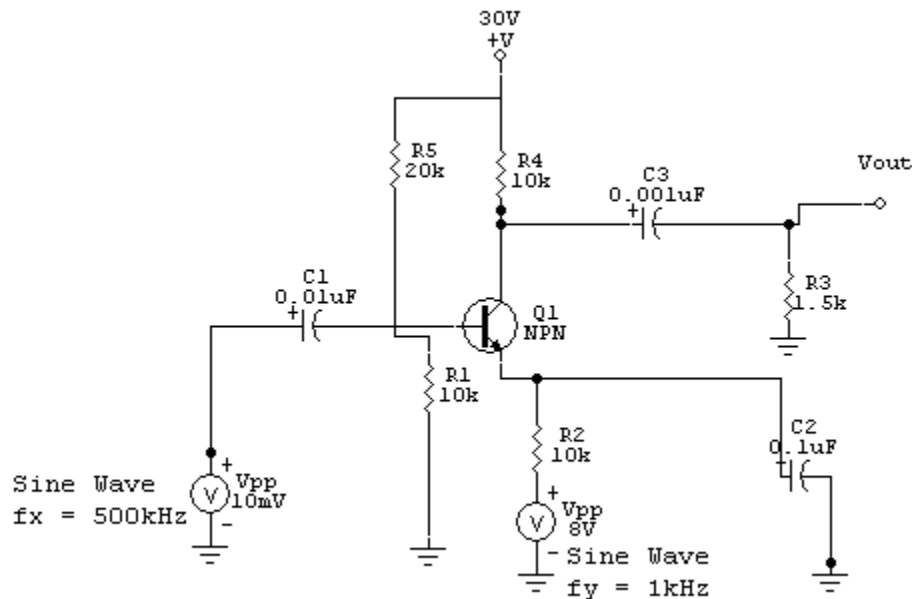

Fig.8.1. Amplitude Modulation
- 1) Assemble the amplitude modulation circuit as shown in Fig. 8.1. Apply sinusoidal the carrier wave $\sim 500\text{kHz}$ or more from one of the function generator ($\sim 20\text{mVp-p}$) and the signal wave \sim in the range of 100Hz - 500Hz . To get the stable display on CRO, trigger it with out put channel. Record the modulated